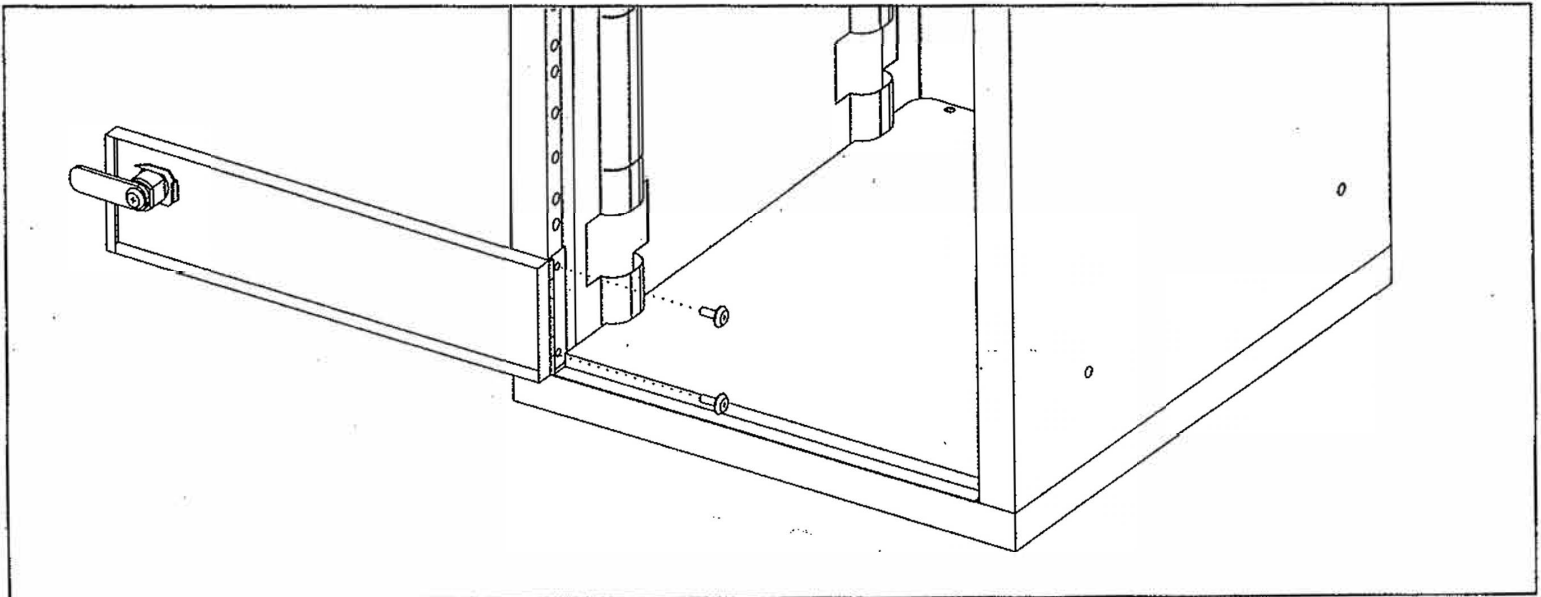

Figure 4
- A) Bolt the Door to the Front Rail with two 10-32 x 1/2" Phillips Pan Head Screw (See Fig. 4). Repeat this procedure for the remaining Doors.